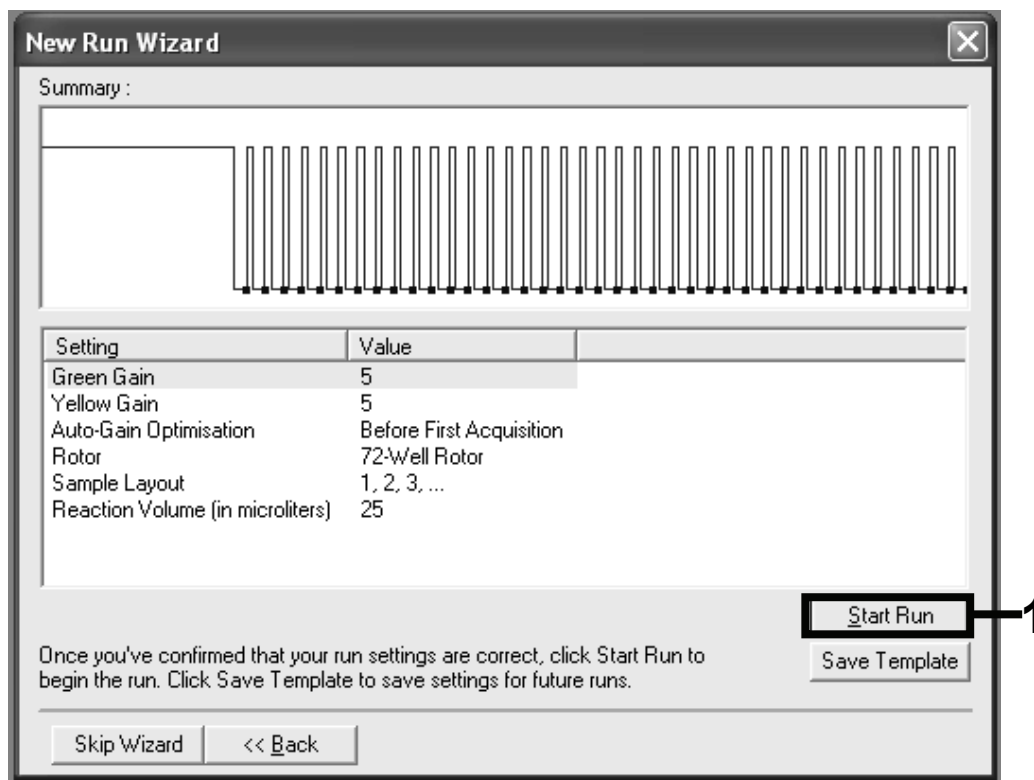

Figure 28. Starting the run.
Starting the run	Figure 28
23. Check the summary and then click “Start Run” to save the run file and start the run (Figure 28).